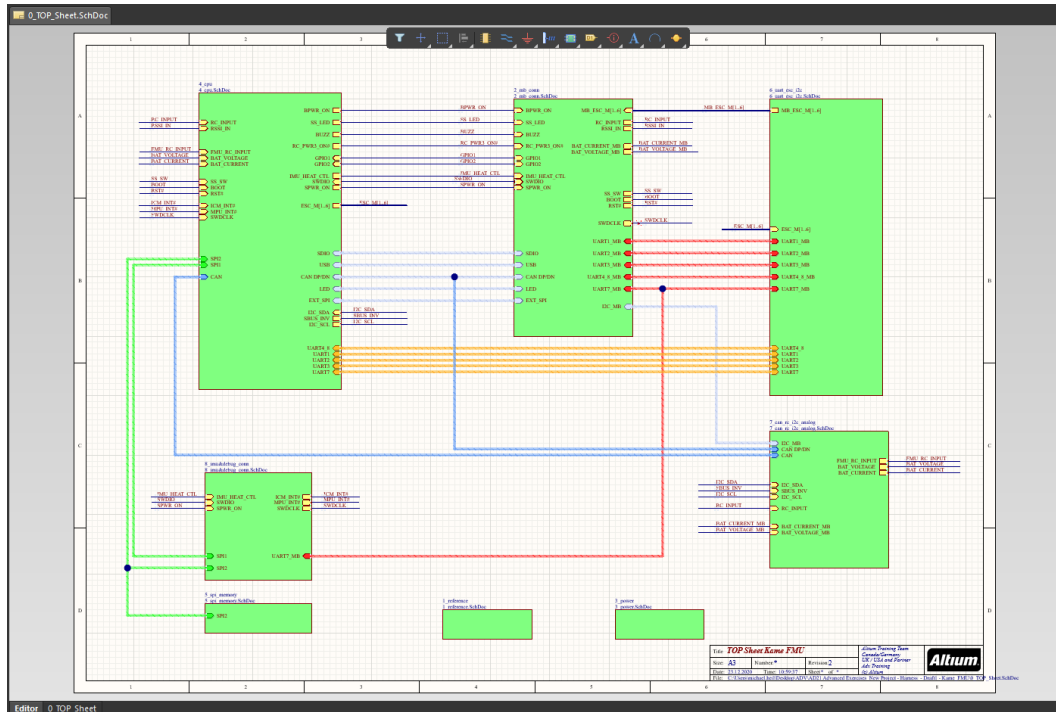

Figure 1. Final TOP Sheet
10. In this exercise, you'll finish the design by adding the missing harness information so that the final result looks similar to Figure 1.